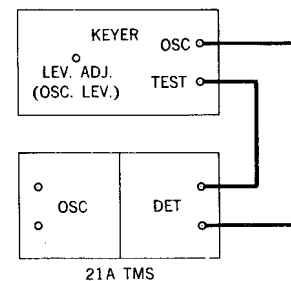

Fig. 5 – Test Setup for Keyer Tests
**5.01** If the Keyer is located in the central office, its 2600-cycle level should be adjusted so that it coordinates with other SF tones in the central office. This test should be made in accordance with Chart III and Fig. 5.